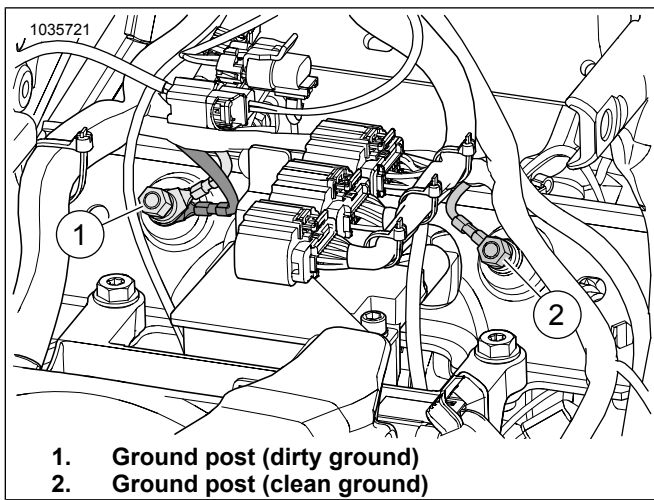

Figure 15. Battery Box Ground Post Locations
See Figure 15. Route and connect ATM ground wire to **clean** ground post (2). Tighten to: